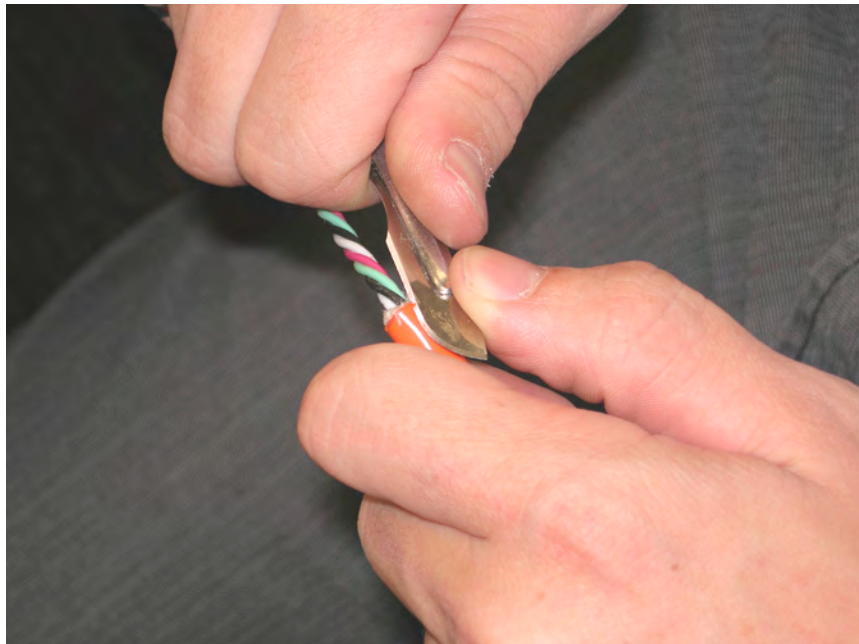

Figure 2: Chamfering cable jacket.
3. Using a very sharp knife, like a scalpel or an X-Acto, put a chamfer or bevel on the end of the cable jacket as shown in Figure 2.